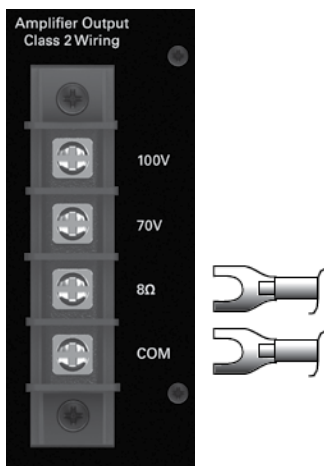

Figure 2.5
**Amplifier Output Connections:** Slip the cable lugs under the output screw terminals and tighten (Figure 2.5). Slide the supplied non-touch cover over the output connections from top to bottom to cover them. AtlasIED recommends using high-quality, two-conductor, heavy gauge speaker wire and connectors. Crimp-on spade lugs may be used for the output connectors. To prevent the possibility of short-circuits, wrap or otherwise insulate exposed loudspeaker cable connectors. Cover the output connections with the supplied clear non-touch cover by sliding the cover on. Using the guidelines below, select the appropriate size of wire based on the distance from amplifier to loudspeaker. The wire sizes apply to the 8Ω tap.